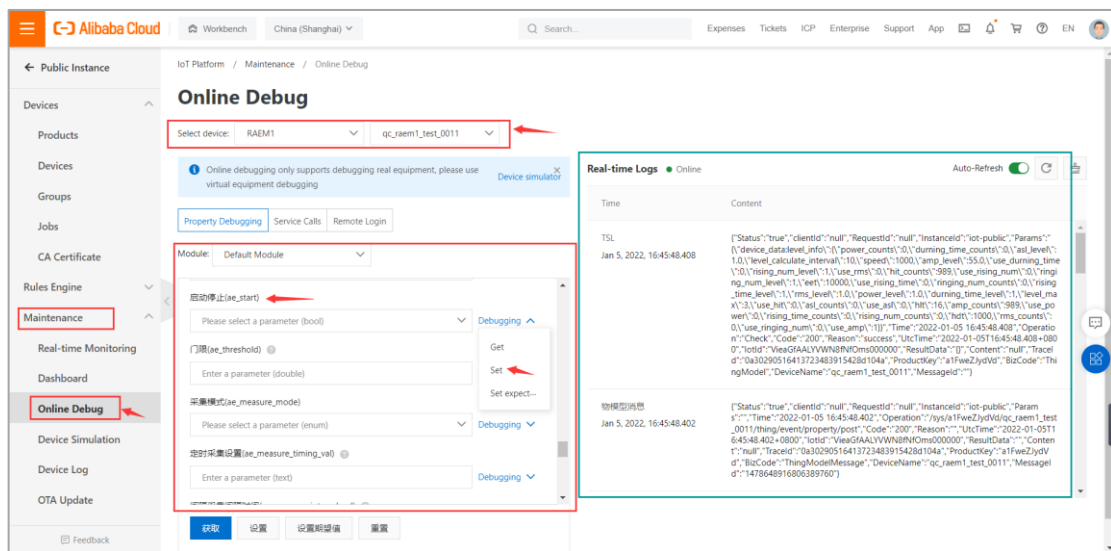

Fig. 6-27 Qingcheng Alibaba Cloud
- (5) Click **Online Debug** tab or under the **Maintenance** on the left menu to enter the online debugging page. Select online devices and start debugging and configurations. To modify the configurations, enter the new configuration values in the textbox on the left column and click **Debugging >> Set** to send the configurations to the devices. Click **Get** to read the current settings. (Figure 6-27)